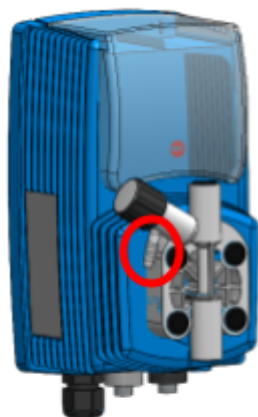

Figure 78.
- Preparation: Securely attach the tubing to the syringe and connect the other end of the tubing to the bleed nipple on the pump head (see Figure 78).